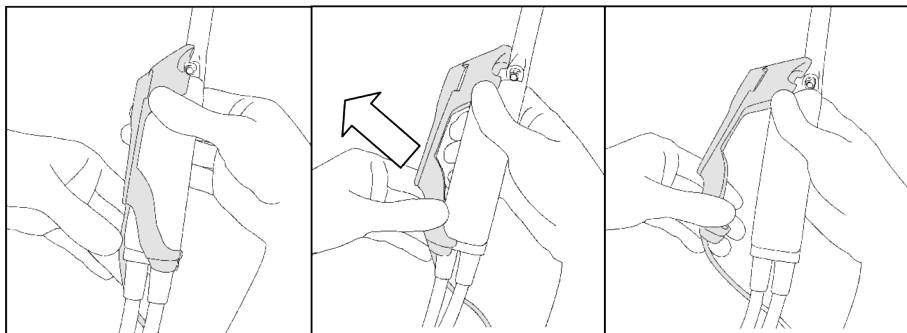

Figure 7 How to release Magnetic Position Sensor Attachment
- (1) Release the magnetic position sensor attachment from the probe as shown in Figure 7.